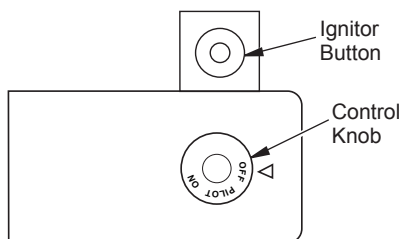

Figure 17 - Control Knob and Ignitor Button Location (Shown as Supplied, No Control Options)
5. Wait five (5) minutes to clear out any gas. Then smell for gas, including near the floor. If you smell gas, STOP! Follow "B" in the safety information, page 11. If you don't smell gas, go to the next step.
6. Press in and turn control knob counterclockwise ↺ to the PILOT position. Press in control knob for five (5) seconds (see Figure 17).